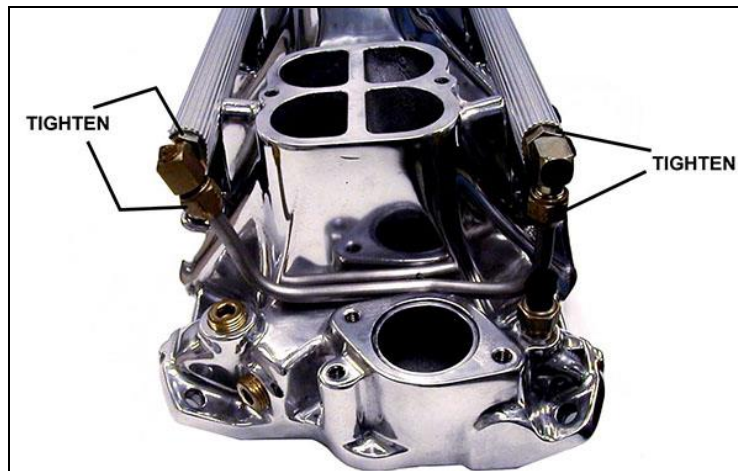

Figure 3
6. Securely tighten the front crossover tube with a wrench. See Figure 3.
The high-pressure fuel supply system consists of the following sub-systems: the fuel pick-up, the coarse fuel pump pre-filter, the high-pressure electric fuel pump, the 10micron high pressure fuel filter, and the feed line (See Figure 3). The fuel pick-up delivers fuel from the tank to the inlet of the fuel pump pre-filter. From the filter, the fuel line supplies filtered fuel to the high-pressure pump inlet. The high-pressure electric fuel pump delivers pressurized fuel to the 10micron fuel filter, which in turn delivers filtered pressurized fuel to the fuel rails, fuel injectors, and the fuel pressure regulator. The function of the regulator is to maintain a constant fuel pressure of 300kPa (43.5psi). The outlet of the regulator returns the excess fuel back to the fuel tank.